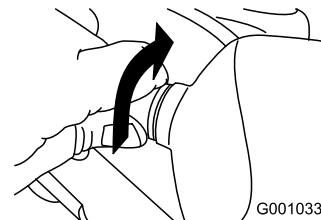

Figure 56
2. Turn the base of the bulb counterclockwise until it stops (Figure 56).